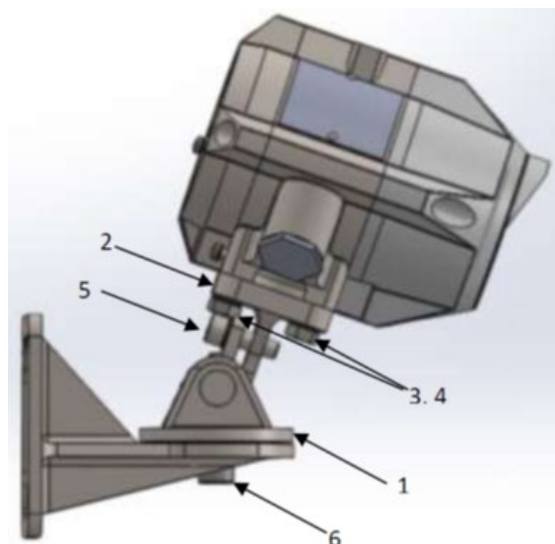

Figure 15 : Detector on Tilt mount – Side view
- Place the detector, with its cable/conduit entries pointing down, on the holding plate of the tilt mount (item 2, Figure 15).
- Secure the detector to the plate using the two hex screws and spring lock washers (items 3 and 4).
- Loosen the locking screws (Items 5 and 6, Figure 15) in such a way that enables you to rotate the detector.